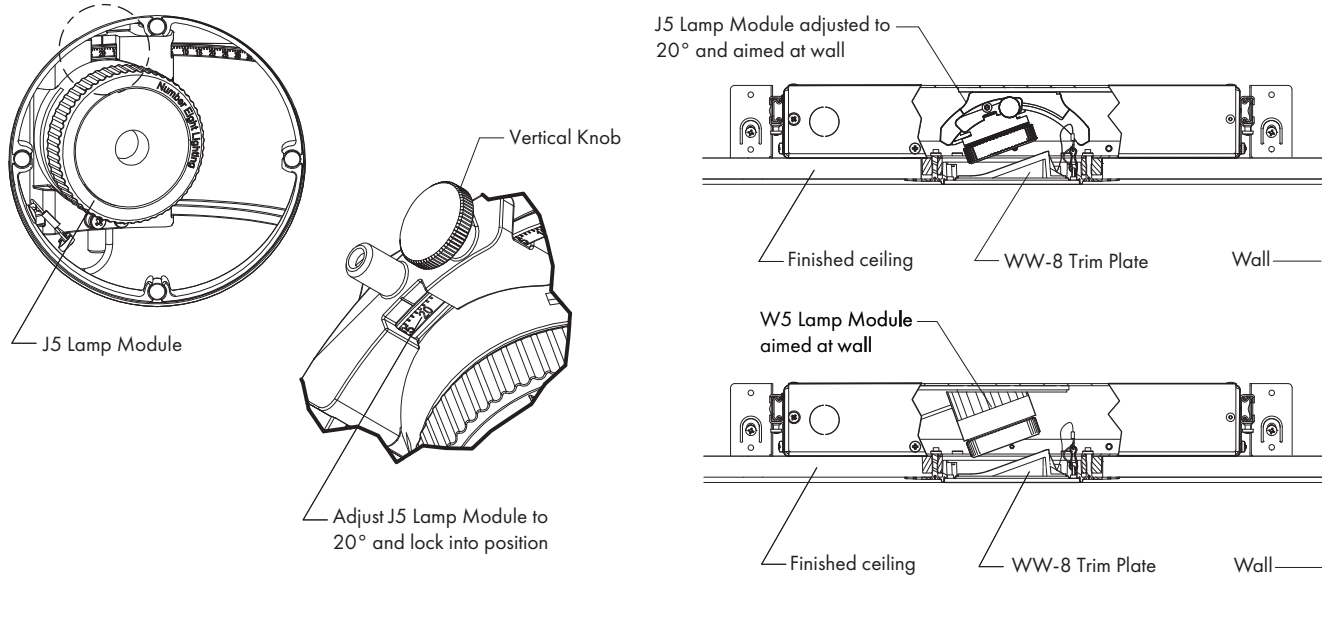

FIG 13.1 Orient Lamp Module with Wall
STEP 1 For J5 Lamp Module only: Loosen Vertical Lock Knob and adjust to 20° and lock in position - **FIG 13.1**.
STEP 2 Orient J5 or W5 Lamp Module toward wall - **FIG 13.1**. **Note:** For additional W5 orientation details, see **Page 12, FIG 12.1**